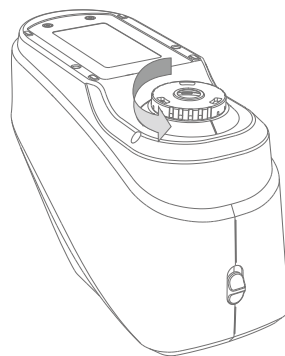

Figure 47 Measurement Aperture
Step 1: As shown in Figure 47, counterclockwise rotates the measurement aperture, and take off it, then install the new aperture clockwise. When